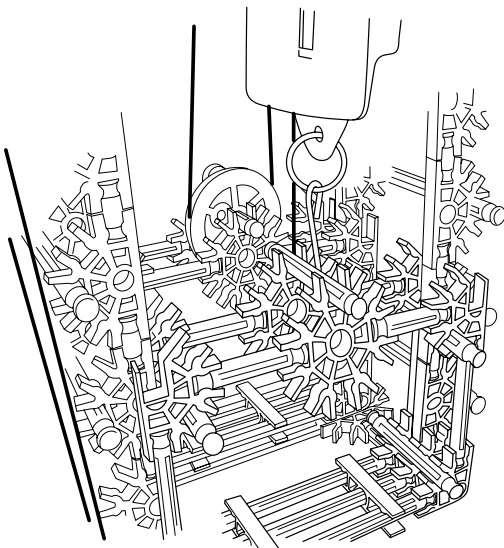

Fig. 2
5. Hook the spring scale under the center beam of Car A. (See Fig. 2) Using the spring scale, lift the elevator car 22 cm, so that the bottom of the car is level with the Rod you identified with a sticker. Record your observations in Table 1 on the Elevator Worksheet.